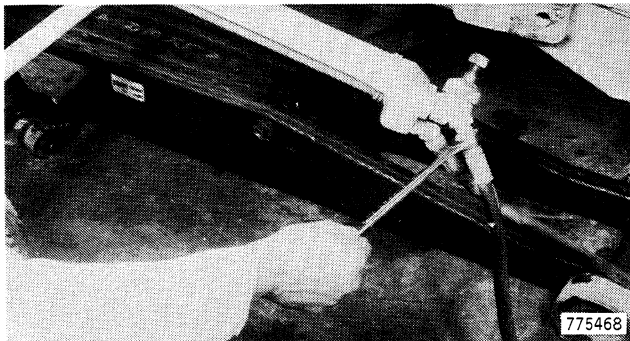

Figure 51
- 54. Disconnect the hoses at the steering cylinder, Figure 51. Put a plug and cap on the hoses and steering cylinder tubes.